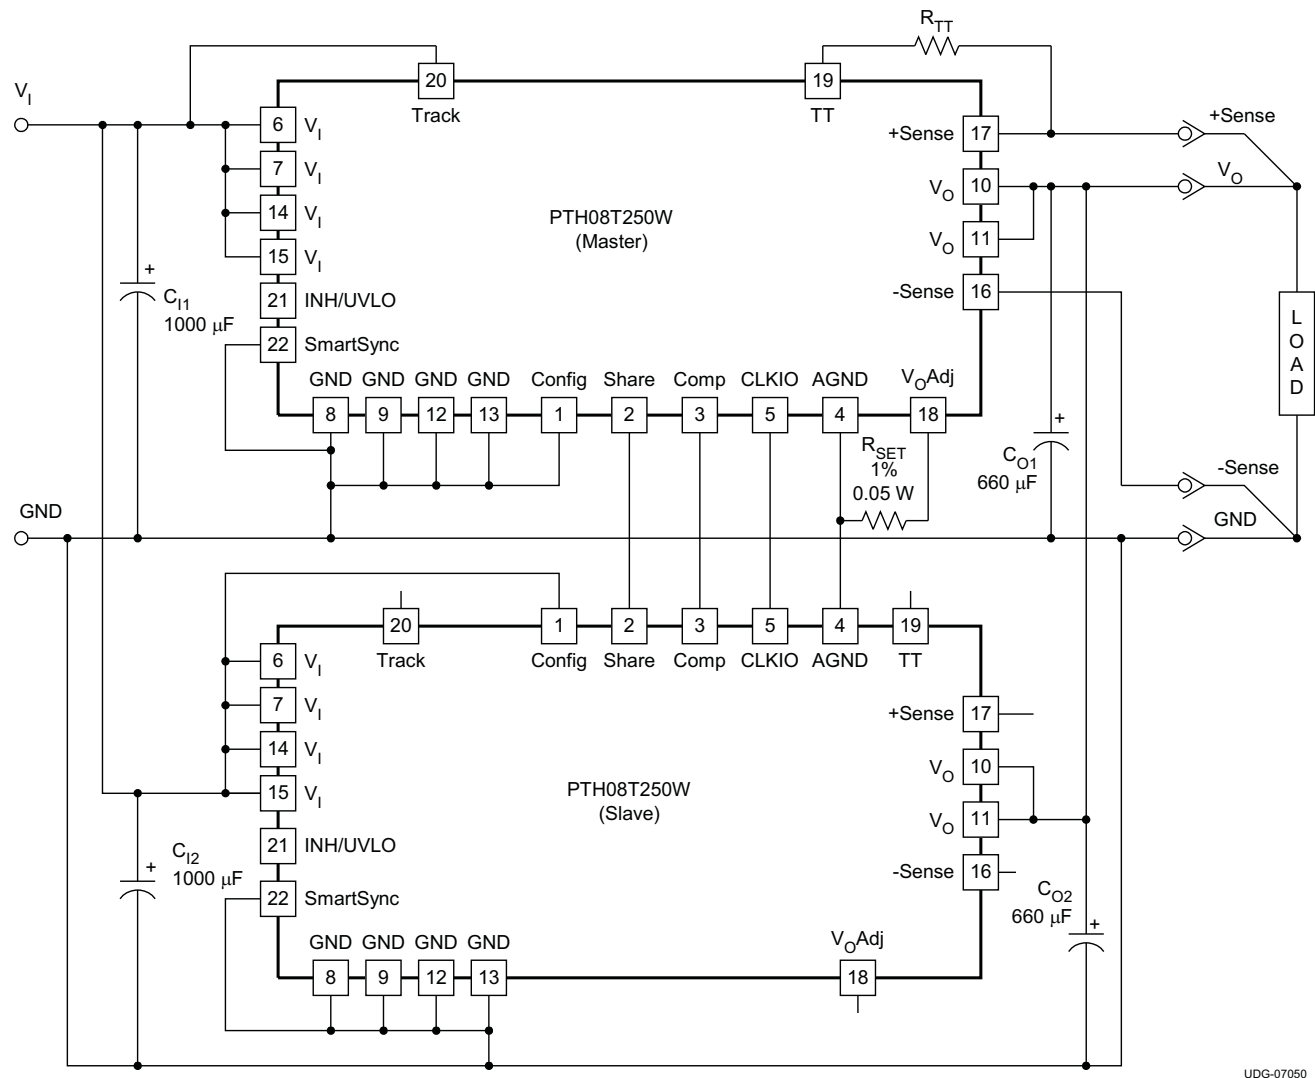
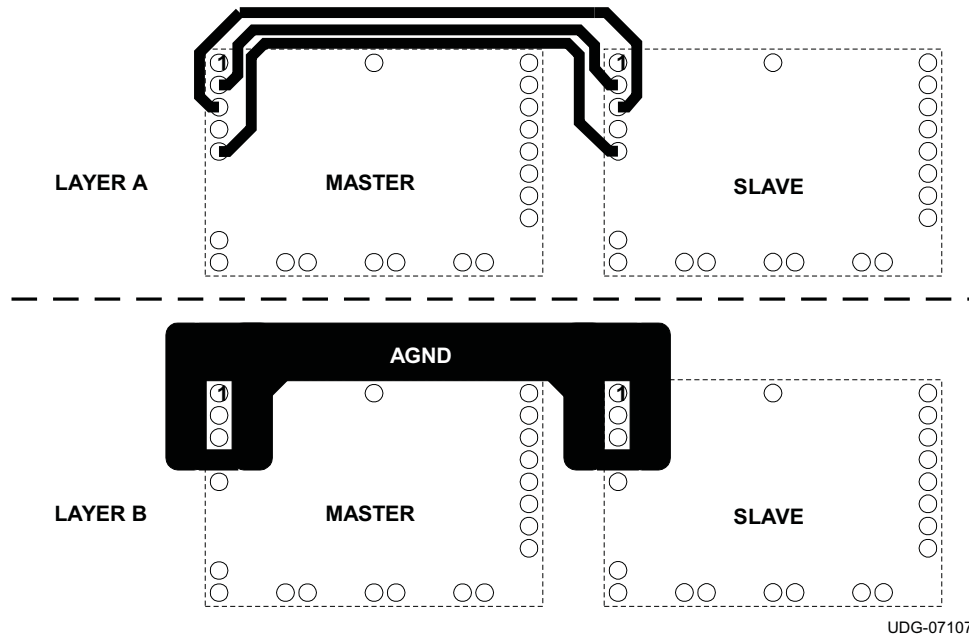

Figure 22. Typical Current Sharing Diagram
Figure 27. Recommended Layout of Inter-Connection Pins Between Two Current Sharing Modules
The PTH08T250W module is capable of being configured in parallel with another PTH08T250W module to share load current. To parallel the two modules, it is necessary to configure one module as the Master and one module as the Slave. To configure a module as the Master, connect the CONFIG pin (pin 1) to GND. The CONFIG pin of the Slave must be connected to V_I . In order to share current, pins 2 thru 5 of both the Master and Slave must be connected between the two modules. See Figure 27 for the recommended layout of pins 2 thru 5. The module that is configured as the MASTER is used to control all of the functions of the two modules including Inhibit ON/OFF control, AutoTrack sequencing, TurboTrans, SmartSync, +/- Remote Sense, and Output Voltage Adjust. See the current sharing diagram in Figure 22 for connections. The MASTER and the SLAVE must be powered from the same input voltage supply.
See Figure 22 and Table 7 for a diagram and connection description of each pin when two PTH08T250W modules are being used in a MASTER/SLAVE configuration.
(1) For more details on the pin descriptions, refer the Pin Functions table.
(2) See Layer A in Figure 27 for recommended layout
(3) See Layer B in Figure 27 for recommended layout
In current sharing applications the V_I pins of both modules must be connected to the same input bus. The V_O pins of both modules are connected together to power the load. The GND pins of both modules are connected via the GND plane. Four other inter-connection pins are connected between the modules. Figure 27 shows the required layout of the inter-connection pins for two modules configured to share current. Notice that the Share (pin 2) connection is routed between the Comp (pin 3) and CLKIO (pin 5) connections. AGND (pin 4) should be connected as a thicker trace on an adjacent layer, running parallel to pins 2, 3 and 5. AGND must not be connected to the GND plane.